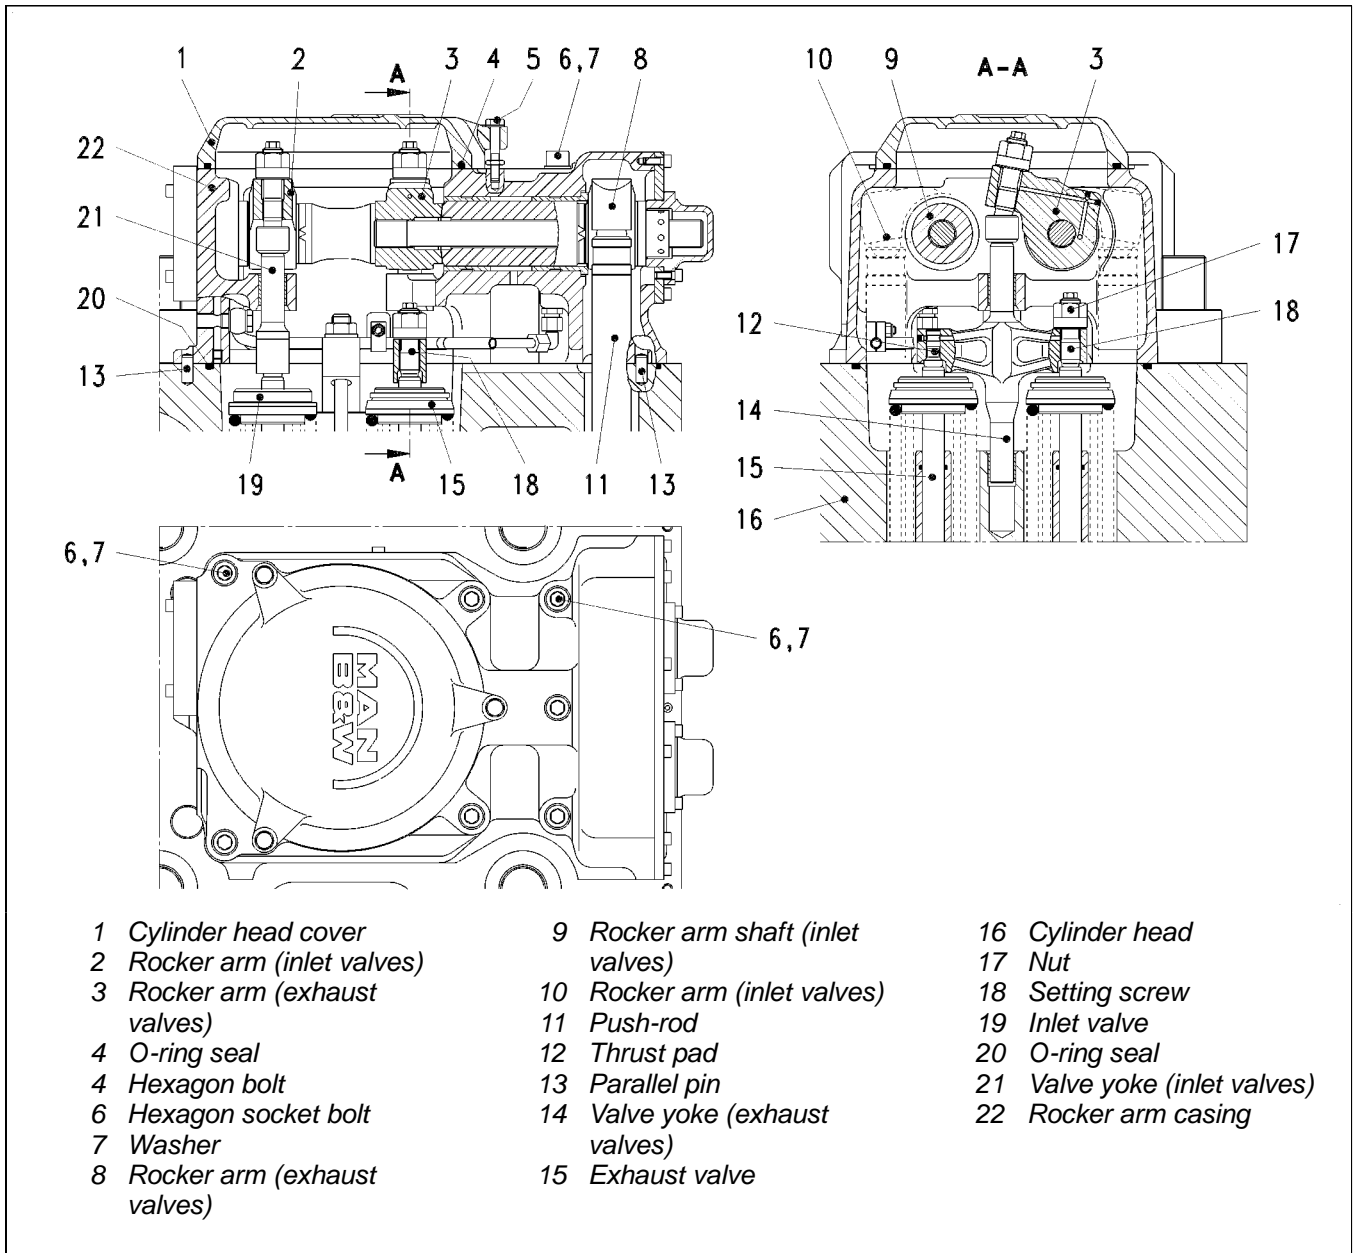
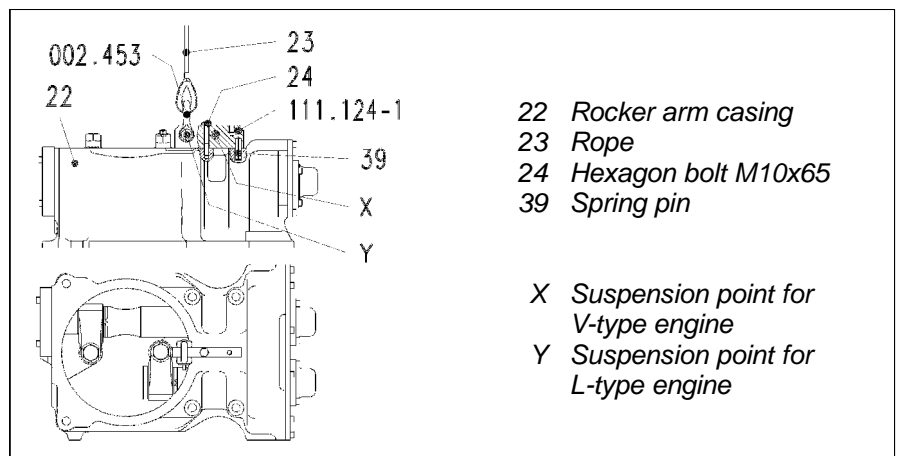

Figure 1. Rocker arm casing with rocker arms
Figure 2. Attaching the rocker arm casing
1. Screw out the hexagon bolt (5) and take off the cylinder head cover (1). Refer to Figure 1.
2. Disconnect the lube oil supply pipe to the rocker arm casing (22) and close it to prevent dirt from entering.
3. Put the suspension plate (111.124-1) onto the rocker arm casing, and fit the spring pin (39) in the bore hole. Fasten the suspension plate (refer to Figure 2).
4. Attach rope (23) to suspension plate by means of shackle (002.453) and suspend from lifting tackle.
△ △ *Important! Make sure to use the correct suspension point (refer to Figure 2).*
9. Snugly place the thrust pad (12) onto the valve cone. Screw in the setting screw until it also snugly contacts the valve cone.
10. Apply MoS₂ lubricant to the thread and contact face of nut (17), screw the nut home and tighten to the specified torque (refer to work card 000.30), holding fast at the setting screw.
13. Loosen the hexagon nut (37), turn the hexagon bolts (38) back and remove the setting device.
14. Put the suspension plate (111.124-1) onto the rocker arm casing (22) and insert the spring pin (39) into the bore. Attach the suspension plate (refer to Figures 2 and 4).
15. Attach rope (23) with shackle (002.453) to suspension plate and suspend from lifting tackle.
△ △ *Important! Make sure to use the correct suspension point (refer to Figures 2 and 4).*
18. Carefully lower the rocker arm casing, making sure that the guide rods engage in the guide bores to avoid that the valve yokes become tilted during inserting. In this connection, see to it that the thrust pads of rocker arms (8 and 10) correctly rest in the cups of the push-rods, and that the parallel pins (13) in the cylinder head engage in the bores of the rocker arm casing (refer to Figures 1 and 4).
20. Apply MoS₂ lubricant to the threads and contact faces of the hexagon socket bolts (6), screw in the bolts together with washers (7), hand-tight, and tighten them to the specified torque (refer to work card 000.30).
24. Check the O-ring seal (4) on the cylinder head cover (1) for damage and, if necessary, apply clean lube oil to a new O-ring seal and place it in the ring groove, taking care not to twist it.